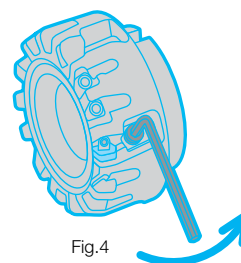

Fig.4
4. Loosen the cartridge clamp screw (Fig 4).